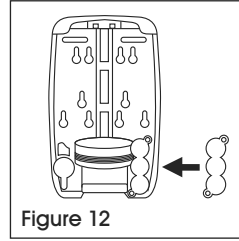

Figure 12
4. Replace battery box cover. (See Figure 12)